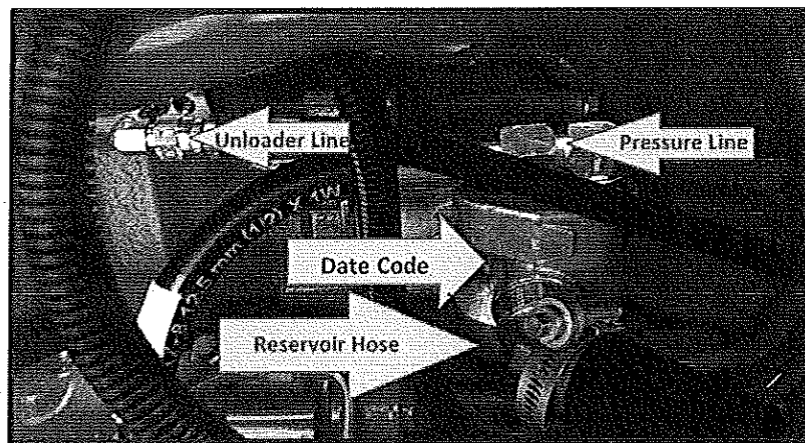

FIG. 7-2
3. Remove the following for power steering pump removal. Retain for reuse. Refer to FIG. 7-2.